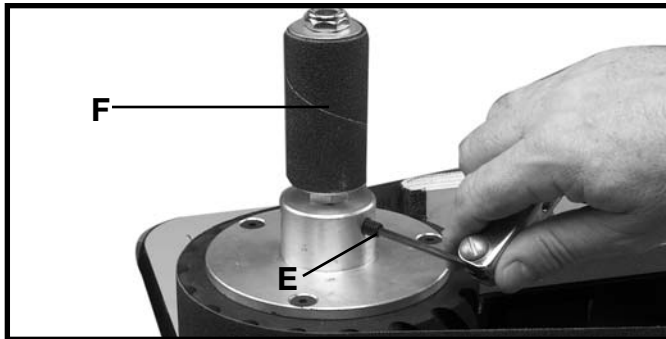

Fig. 14
4. Firmly tighten set screw (E) Fig. 14, to fasten drum spindle (F) in place.